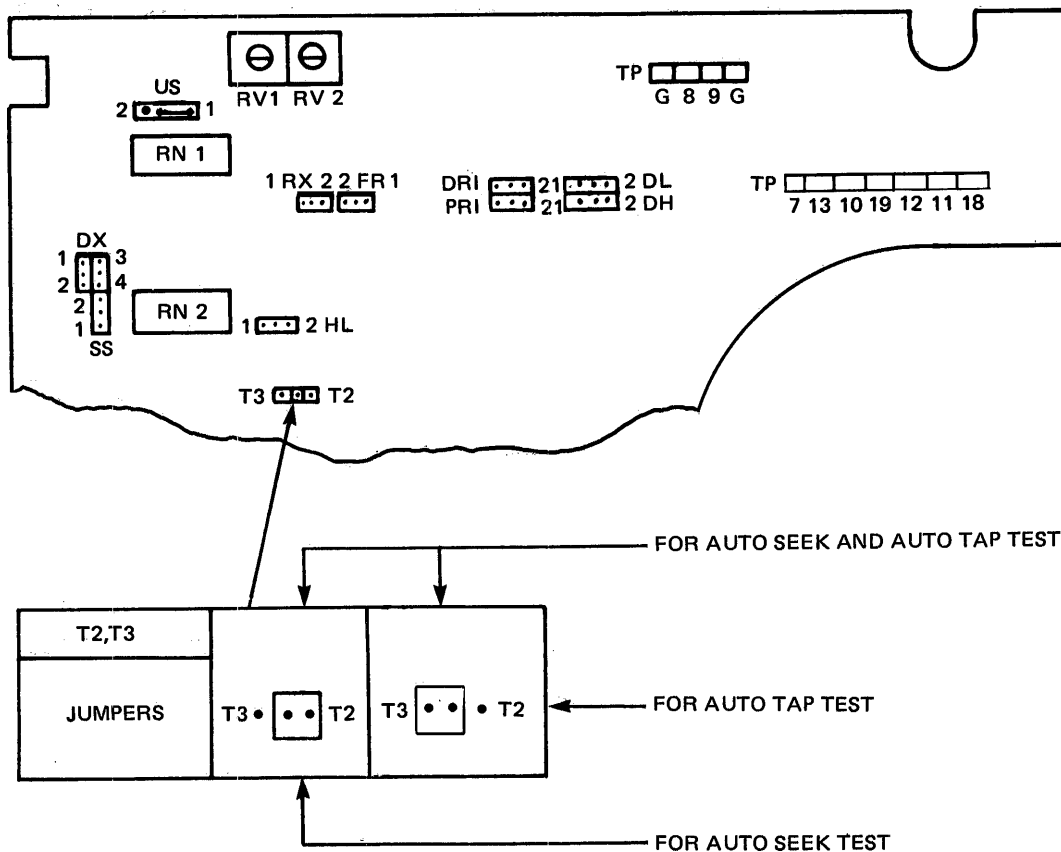

Figure 5-1 Location of Diagnostic Test Pins and Test Points
This section describes the diagnostic tests for the Model FD1165. Diagnostic tests are performed using of diagnostic test pins T2 and T3 (see Figure 5-1). The FD1165 is supplied with the test pins open (not connected).
To delay the head unload action by 250 ms, short pin T1 (see Figure 5-1) to ground. With T1 shorted to ground, rapid head load/unload actions (less than 250 ms apart) cannot occur. Normally this pin is open.
The test point (TP) numbers (see Figure 5-1) and the signals available at these points are listed in Table 5-1. Test points not listed in the table are used in manufacturing only.